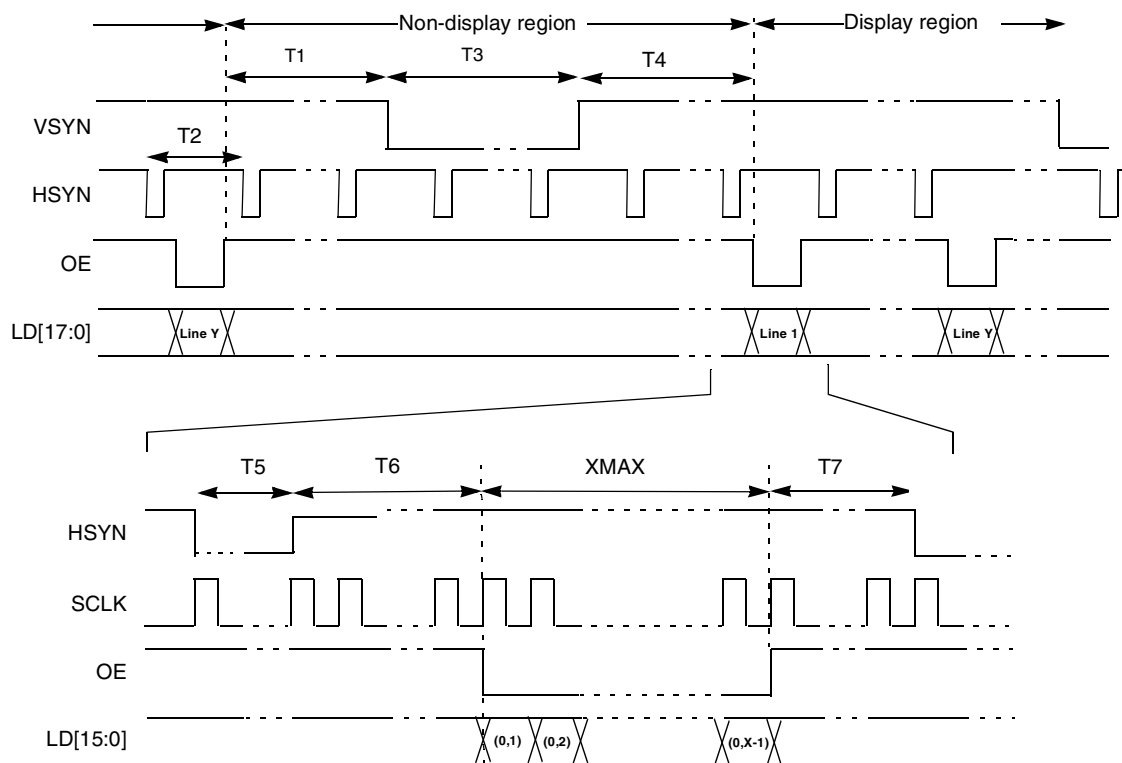

Figure 12. 4/8/12/16/18 Bit/Pixel TFT Color Mode Panel Timing
- VSYNC, HSYN and OE can be programmed as active high or active low. In Figure 12, all 3 signals are active low.
- SCLK can be programmed to be deactivated during the VSYNC pulse or the OE deasserted period. In Figure 12, SCLK is always active.